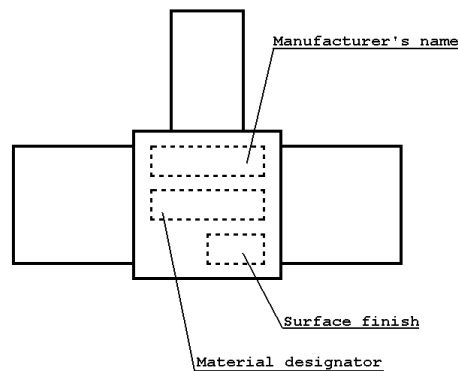

Figure 5A
6.2 To be agreed upon between supplier and user for marking items and marking locations. The example below explains marking applications. (see Figures 5A and 5B)